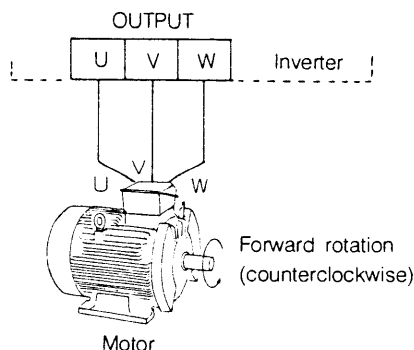
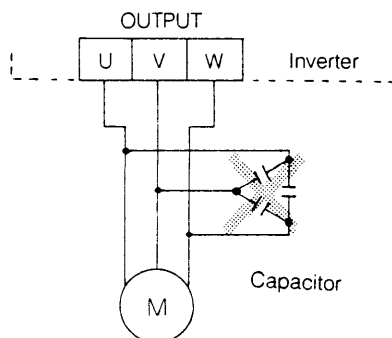

Fig. 6-2-3 Connection of a motor
Fig. 6-2-4 Capacitor connection forbidden
(2) Connection to the output terminals
- ① Be sure to turn off the power supply during connection to the inverter output terminals U, V, and W.
- ② Connect the terminals U, V, and W in the correspondent phase sequence as in Fig. 6-2-3. The motor rotates counterclockwise viewing from the driving side by a forward command. To get reverse rotation with a forward command, see 7-3 (4-7) FNO. 5B Definition of forward and reverse commands.
- ③ Do not connect power supply to the terminals U, V, and W. Application of external voltage will cause damage in the inverter.
- ④ Capacitors can not be connected. They will be overheated or damaged by high harmonics (Fig. 6-2-4).